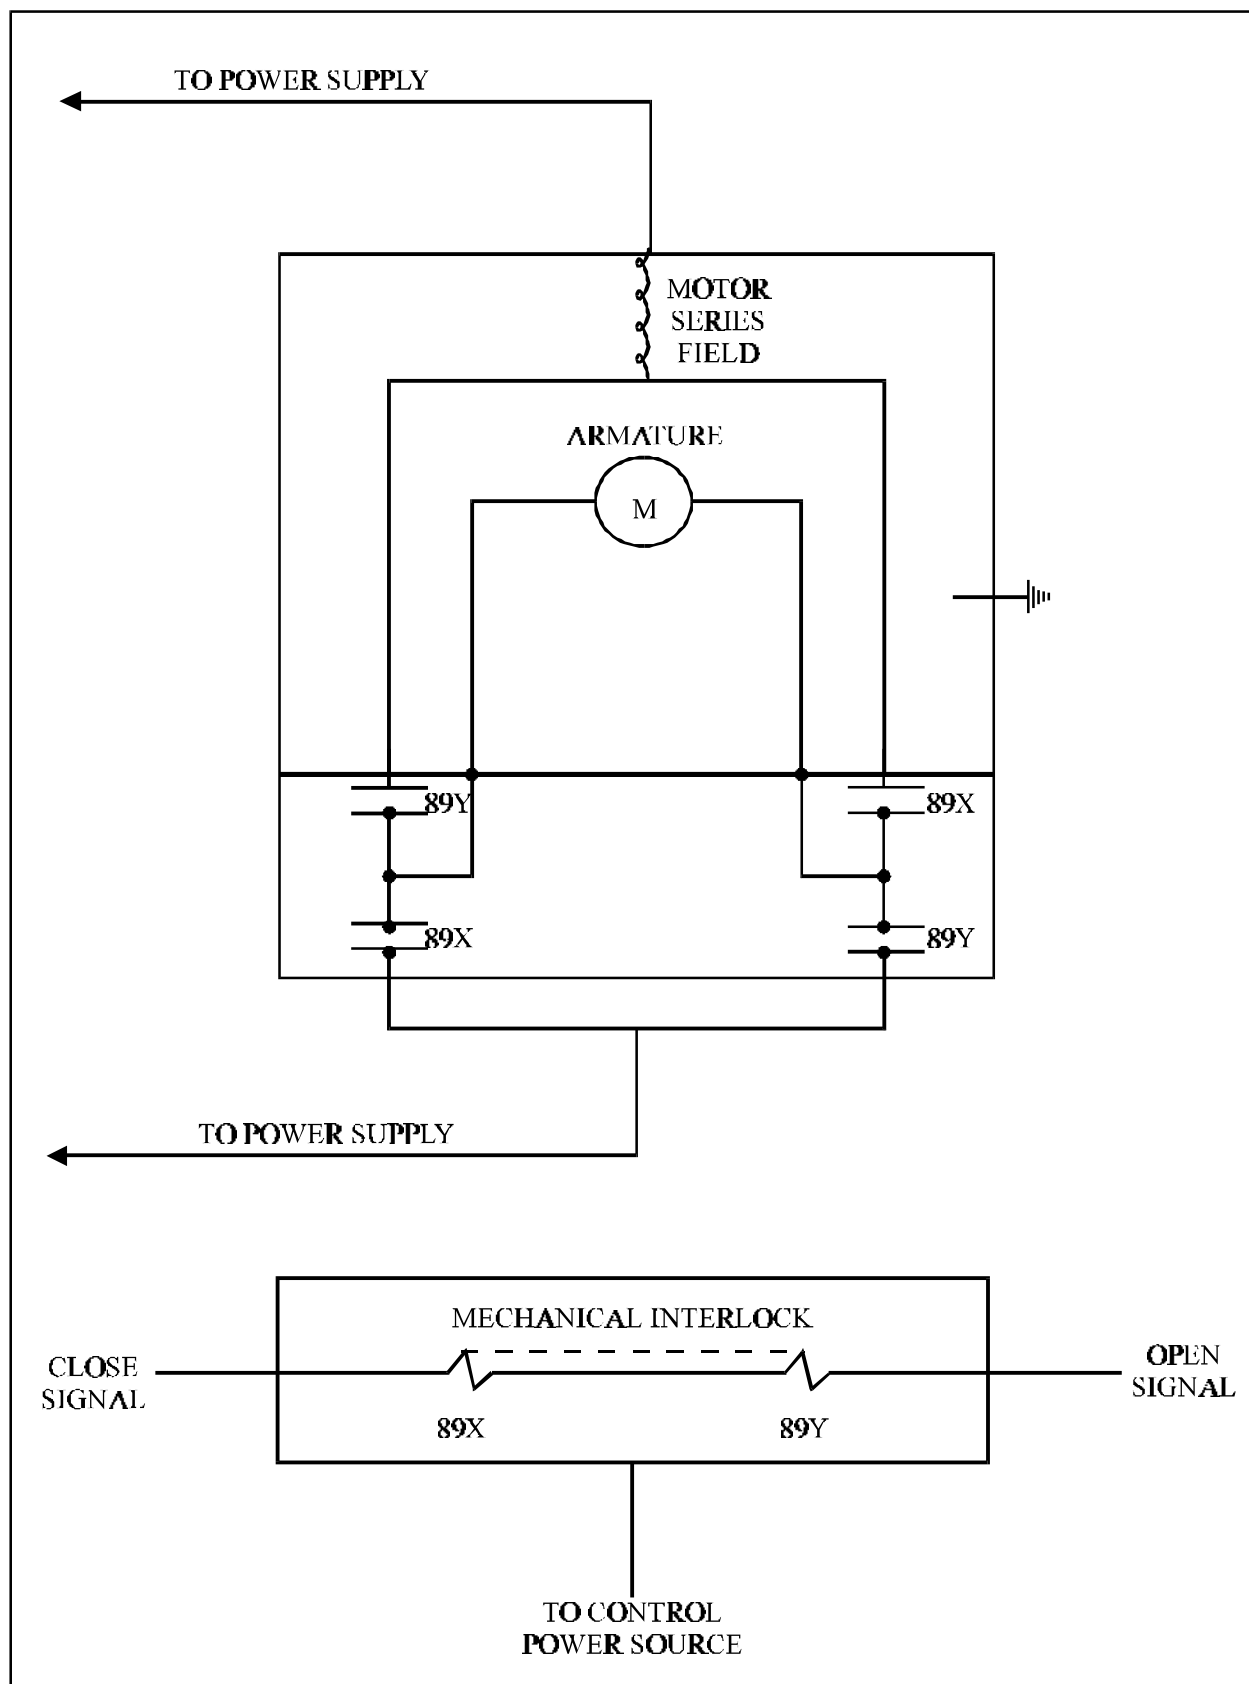

Figure 3. Wiring
Movement of the solenoid (SOL) (Figure 3) compresses spring (SP) and engages clutch (CL). Motor rotates sprocket (SRA) which through its chain drive (CHA) rotates the PIF drive shaft to close the load break switch.
**(Refer to Figures 3 and 4)**